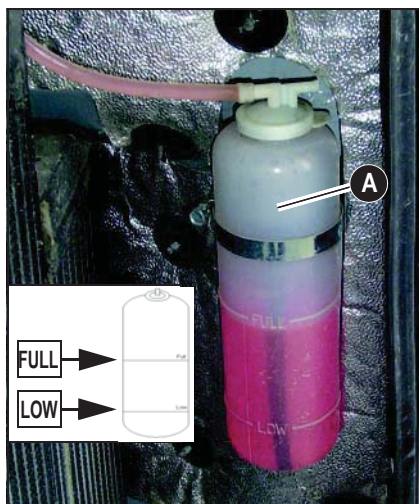

Fig. 15: Expansion tank for coolant
- ➔ The coolant level must be between the **LOW** and **FULL** tank seams (Fig. 15)